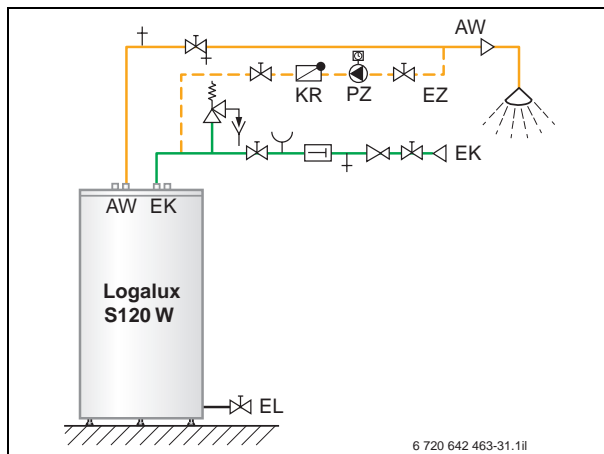
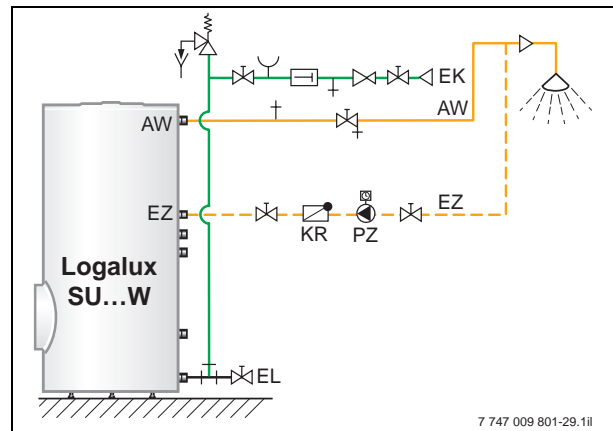

Fig. 43 Version of a DHW circulation line for the Logalux S120 W DHW cylinder
Fig. 45 Version of a DHW circulation line for the Logalux SU... W DHW cylinders
- The DHW circulation connection can be installed in the cold water inlet of the Logalux S120 W DHW cylinders. In connection with the Logamax plus GB162, the connection piece for PZ DHW circulation pumps can be fitted to the safety assembly of the S-Flex connection set for the sanitary side. Install the pipework in conjunction with the Logamax plus GB162 on site (→ fig. 43).
### Key to fig. 43 to fig. 45: